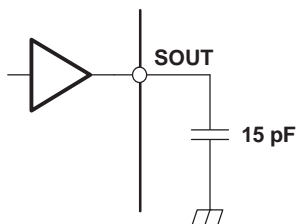
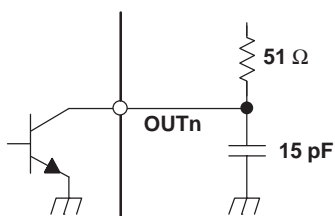
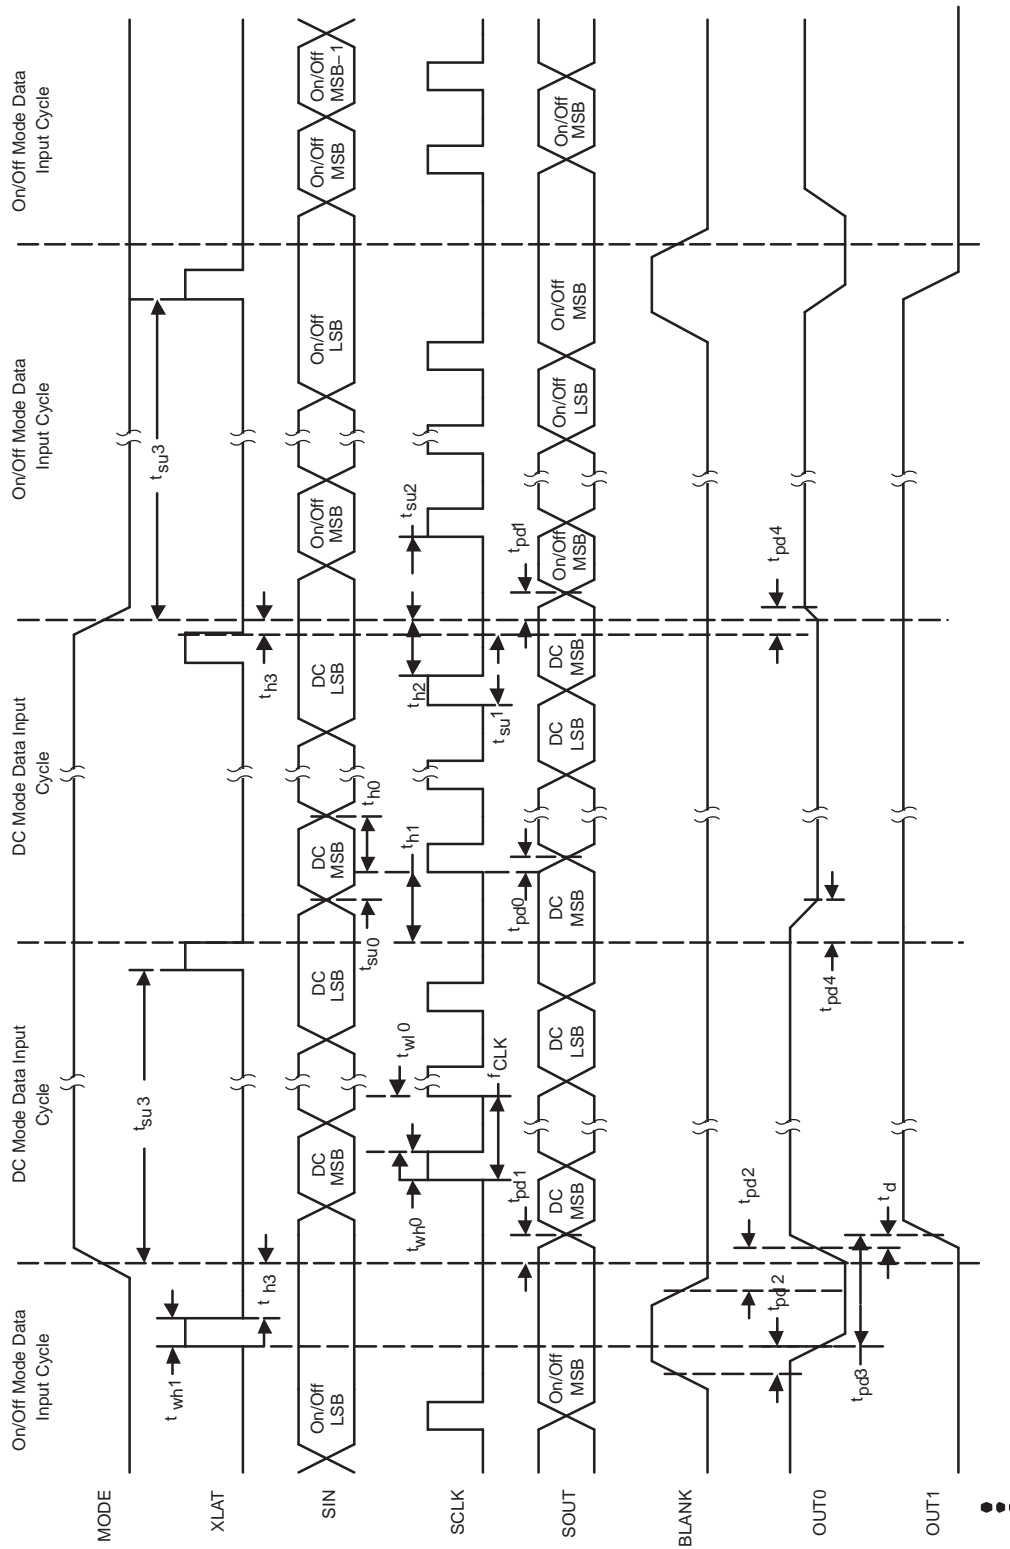

Figure 4. Test Circuit for  $t_{r0}$ ,  $t_{f0}$ ,  $t_{d0}$ ,  $t_{d1}$
Figure 5. Test Circuit for  $t_{r1}$ ,  $t_{f1}$ ,  $t_{pd2}$ ,  $t_{pd3}$ ,  $t_{pd4}$
Figure 10. Timing Chart Example for ON/OFF Setting to Dot-Correction
- (1) See Figure 4 . Defined as from 10% to 90%
- (2) See Figure 5 . Defined as from 10% to 90%
- (3) See Figure 4 . Figure 10
- (4) See Figure 5 and Figure 10
- (5) See Figure 5 and Figure 10
MODE must be set to high to input data into the dot-correction register. The internal input shift register is then set to 112-bit width. After all serial data is clocked in, a rising edge of XLAT latches the data to the dot-correction register (Figure 10).
MODE must be set to low to input On/Off data into the On/Off register. The internal input shift register is then set to 16-bit width. After all serial data is clocked in, a rising edge of XLAT, during BLANK = high, is used to latch data into the On/Off register. Figure 10 shows the On/Off data input timing chart.